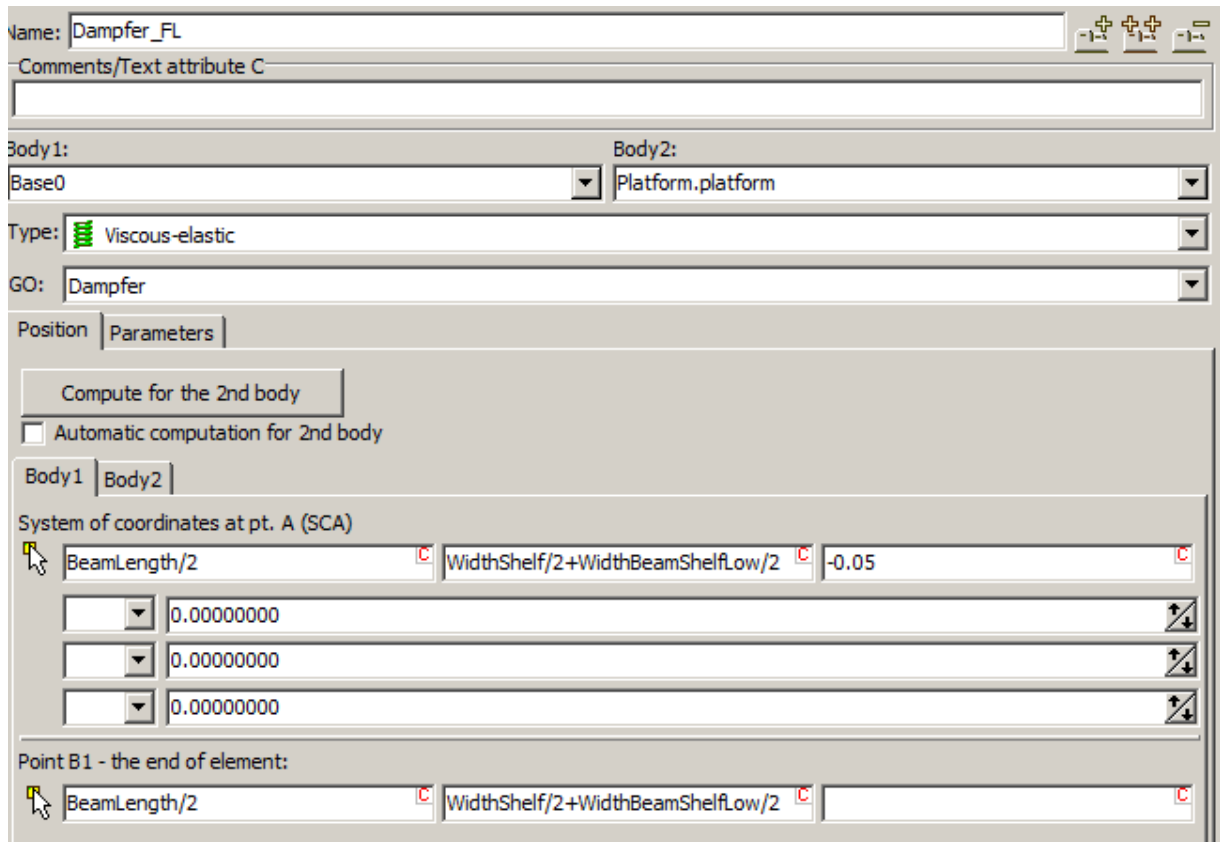

Figure 2.41.
3. Rename it as **Dampfer\_FL** (forward, left), set element type Viscous-elastic, interacting bodies **Base0 Platform.Platform** as well as the Spring\_Dampfer GO (Figure 2.41).
5. Coordinates of the element end point in undeformed state in system of coordinates of the first body, Figure 2.41:
**BeamLength/2, -WidthShelf/2 - WidthBeamShelfLow/2, 0.0** (Figure 2.41).